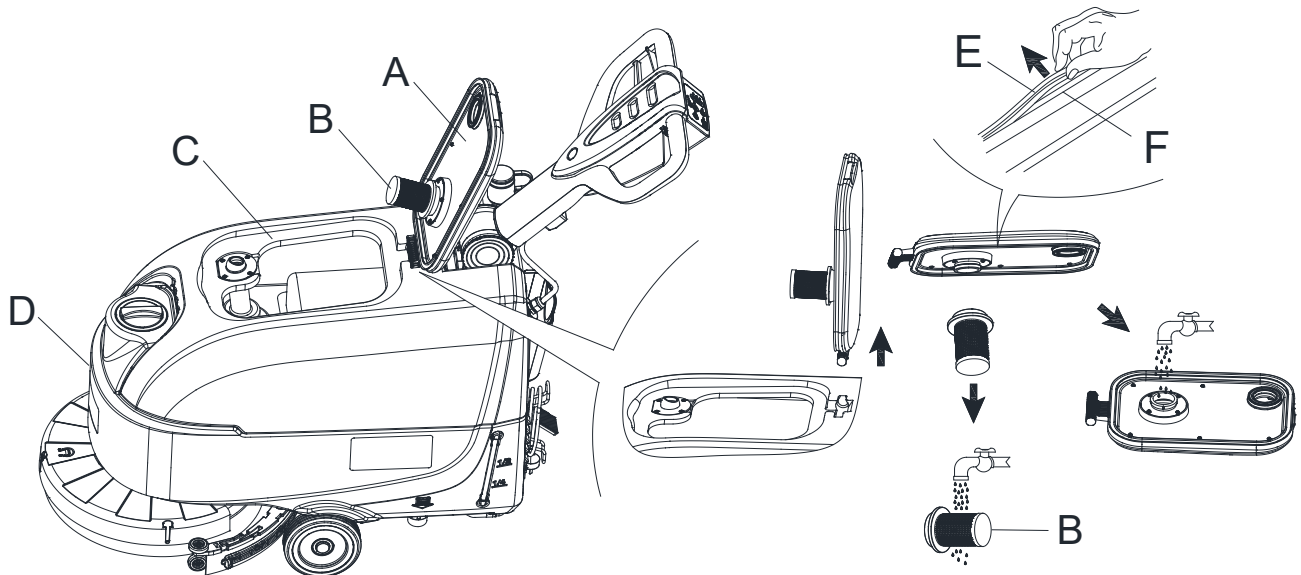

Figure 6
7. Check whether the contact surface of sealing strip (E) is integral and the sealing is sufficient. If necessary, take the sealing strip of the tank out of the groove (F) and replace it. Assemble the new sealing strip as shown in Figure 6, the joint should be back in the middle area.
8. Close the recovery tank lid (A).